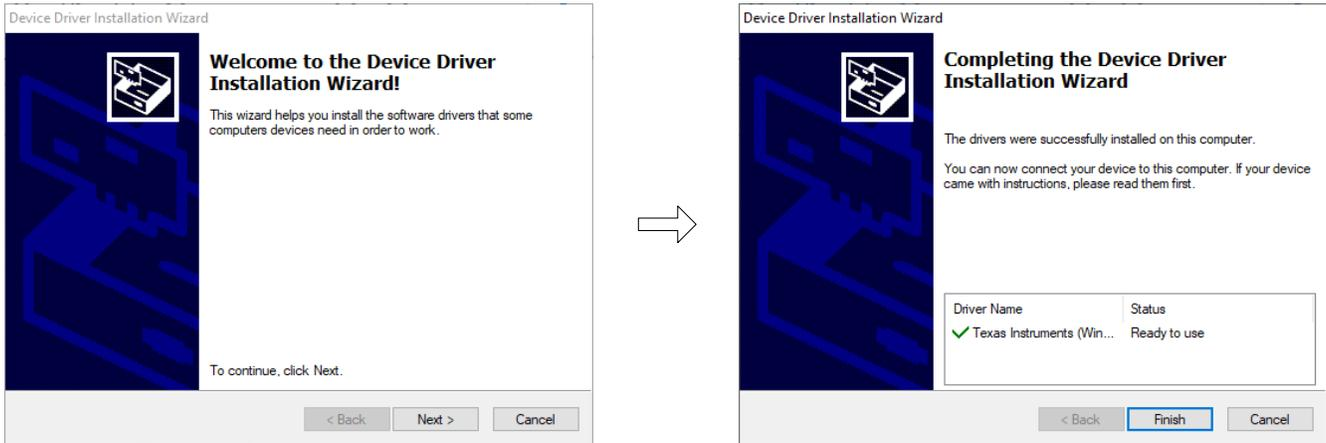

Figure 5-3. Device Driver Installation Wizard Prompts
3. As a part of the ADS835xEVM GUI installation, a prompt with a *Device Driver Installation Wizard* (Figure 5-3) appears on the screen. Click the **Next** button to proceed, then click the **Finish** button when the installation is complete.